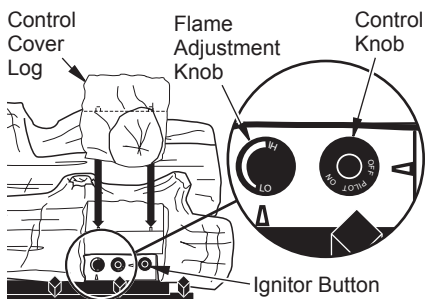

Figure 32 - Control Knob (Shown in the OFF Position) and Ignitor Button Location
3. Remove control cover log (see Figure 32).
4. Press in and turn control knob clockwise  to the OFF position (see Figure 32).
5. Wait five (5) minutes to clear out any gas. Then smell for gas, including near the floor. If you smell gas, STOP! Follow "B" in the safety information, page 21, column 2. If you don't smell gas, go to the next step.
6. Press in and turn control knob counter-clockwise  to the PILOT position. Press in control knob for five (5) seconds (see Figure 32).
11. Replace control cover log (see Figure 32).
1. Remove control cover log (see Figure 32, page 22).